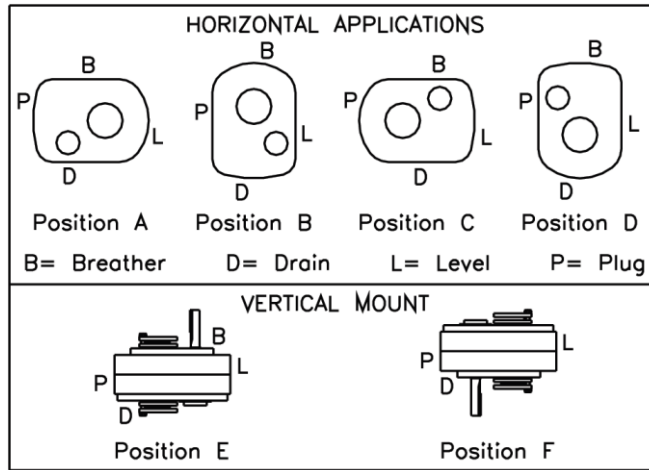

Figure 1. (Dodge® Manual MN1610)
Dodge® Torque-Arm™ #7 Gear Reducing unit mounted in the position B configuration of Figure 1. Noting the breather, drain and level port plug positions from the OEM manual.
2. Determine gearbox port locations from OEM manuals (See Figure 1 for Standard Dodge® Torque-Arm™ Gear Reducer)